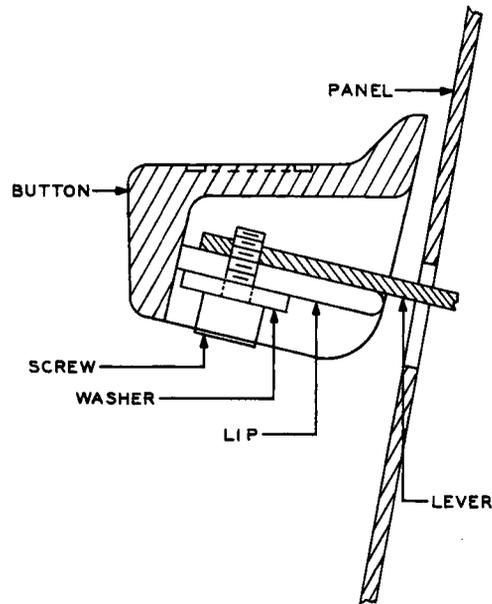

Fig. 17 — Assembly of Button and Lever
3.06 *Button:* To replace the button, loosen the screw under the button with the R-2958 wrench and remove the button. Slide the replacing button in place on the OPERATE lever allowing approximately 1/64-inch clearance between the button and the panel surface. The washer should fit under the lips of the button as shown in Fig. 17. Tighten the screw securely.